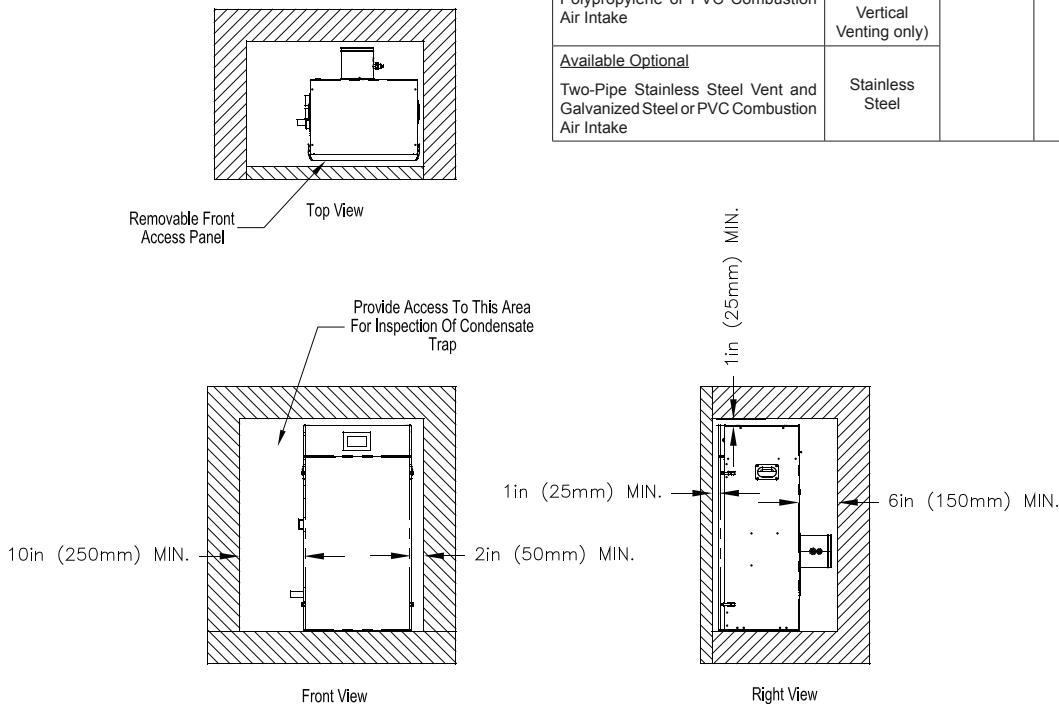

Figure 2: Clearances To Combustible and Non-combustible Material
- C. Provide clearance** between boiler jacket and combustible material in accordance with local fire ordinance. Refer to Figure 2 for minimum listed clearances from combustible material. Recommended service clearance is 24 in. (610 mm) from left side, front, top and rear of the boiler. Recommended front clearance may be reduced to the combustible material clearance providing:
- b. Maintain minimum clearance to combustible materials. See Figure 2 for details.